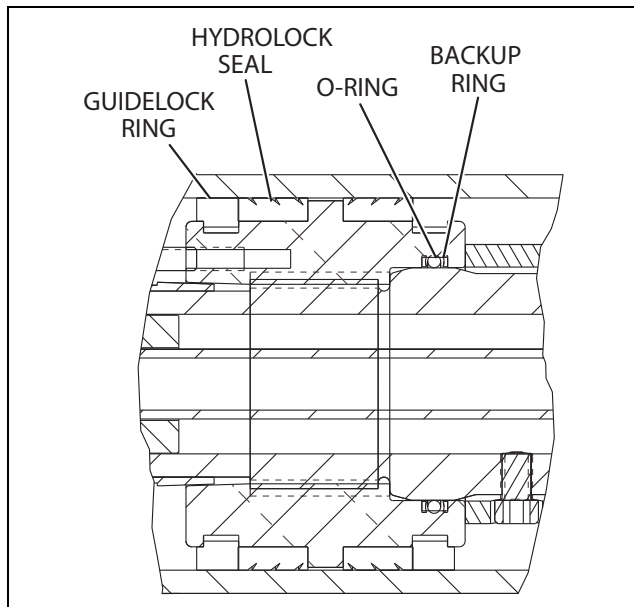

Figure 5-103. Piston Seal Kit Installation
- Thread piston onto rod until it abuts the spacer end and torque piston as shown in Figure 5-103. and Figure 5-93. Install the tapered bushing.